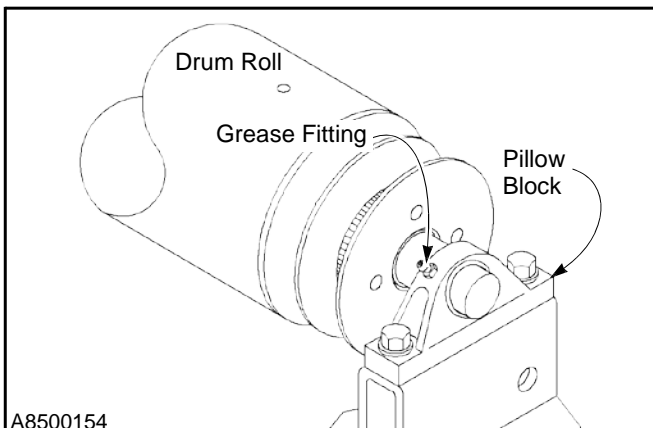

Figure 20
4. **Pillow Block Bearings:** The drum roll is supported by a pillow block bearing located at each end of the drum roll. Each pillow block has a lubrication fitting. (See Figure 20)